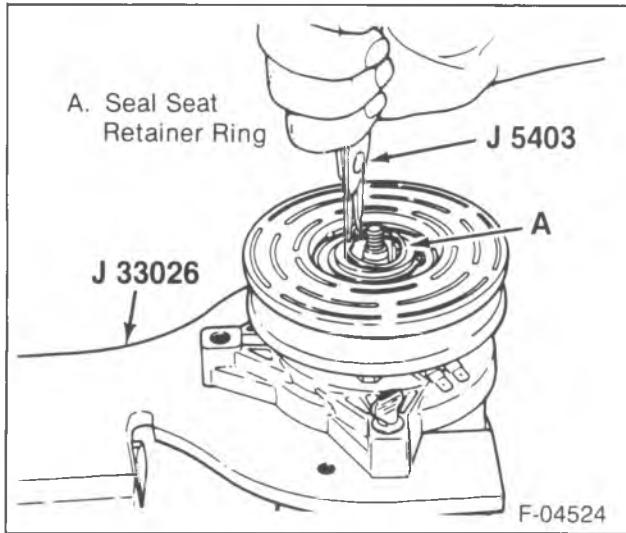
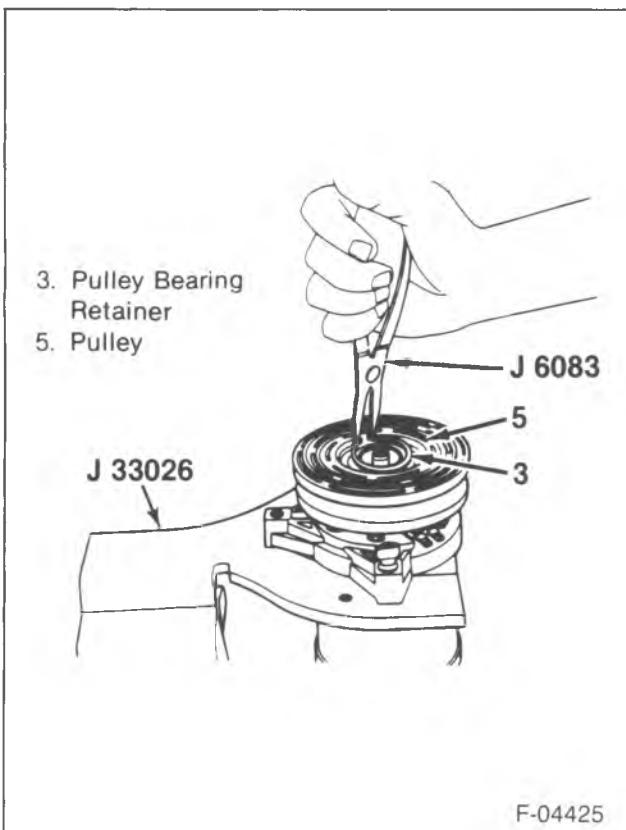

Figure 21—Removing or Installing the Shaft Lip Seal Retaining Ring
Figure 22—Removing or Installing the Shaft Tip Seal
1. Clutch plate and hub assembly (2).
- Install J 34614 over the threaded end of the shaft (20).
2. Shaft seal retainer ring using J 5403 (figure 21).
- Clean the compressor neck area around the shaft (20), the exposed part of the shaft seal (8) and the O-ring seal groove.
3. Shaft lip seal using J 23128-A (figure 22).
- 2. Shaft lip seal using J 23128-A (figure 22).
- 3. Shaft seal retainer ring using J 5403 (figure 21).